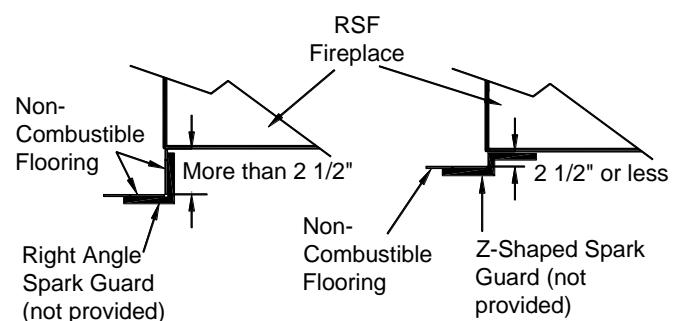

Figure 13 Special Custom-made Spark Guard
If you are preparing a raised installation, you will need a custom made spark guard, either a "Z" shaped spark guard or a right angle spark guard (see Figure 13). The Z-shaped spark guard must be used if the height between the bottom of the fireplace and the top of the non-combustible flooring of the hearth extension is less than or equal to 2 ½". The height of the Z-shaped spark guard must equal the distance between the floor and the base of the unit and go under the hearth extension and the fireplace by at least 2½". If the unit is installed higher than 2 ½" from the top of the flooring, a right-angle spark guard is necessary. The sides of the right-angle spark guard should be at least 2½" x 2½" and must be covered with non-combustible material. Any custom-made spark guard must have the minimum width specified in Table 1 (I), and be installed centered on the door opening.